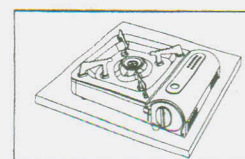

Fig.11B
3. When the unit is used on the combustible materials, like wooden table, plywood table, etc., please lay out the incombustible matting beneath the unit. The size of the incombustible matting must be **bigger than the unit** as per (Fig. 11B)